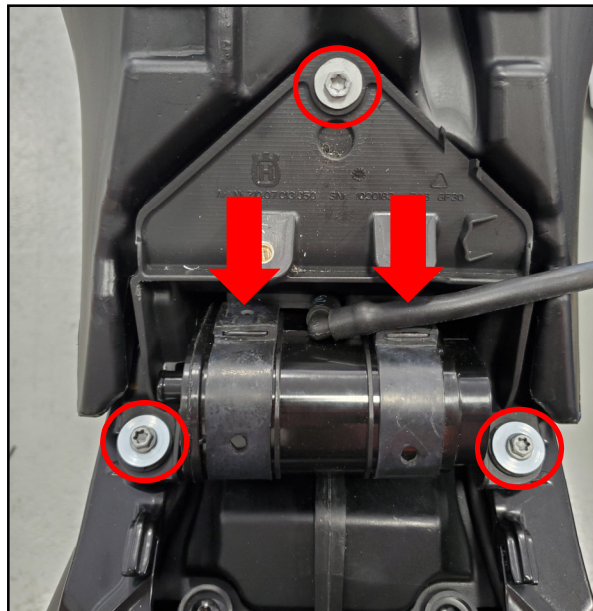

Fig. 4
5. Remove the charcoal canister from its mount and remove the three tank mounting bolts (Figure 4).